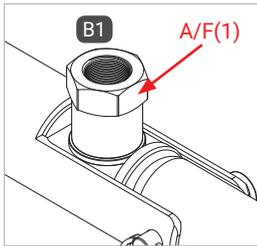

Figure 1
- ▶ When mounting media hose line, hold an open-ended spanner against the spanner flat A/F(1) (Figure 1).
- ▶ Screw the 'B1' media inlet pressure-tight to the port for the media line (Figure 1). Tightening torque $10 \text{ Nm} \pm 2 \text{ Nm}$ (G1/8" female thread).